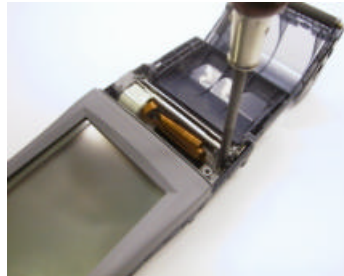

Figure 2.5.4.1 Removing the printer unit (1/3)
(2) Use the screwdriver to remove the screw of the printer unit holder. (Figure 2.5.4 (b))
- (4) Lift the printer unit to remove it from the cabinet. (Figure 2.5.4.1 (c))
- (5) Disengage the connector latches and remove the flexible cable from connector.
- (6) The printer unit is removed.